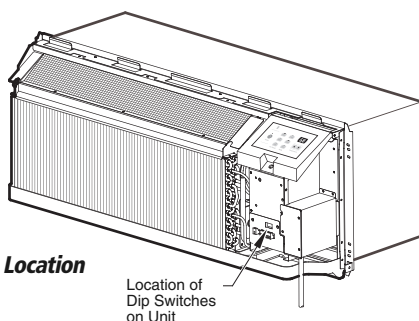

Fig. 17 – Dip Switch Location
- 9. Locate configuration dip switches above thermostat terminal connections. Set switch #2 "UP" for Wall Thermostat Mode (see Fig. 17).